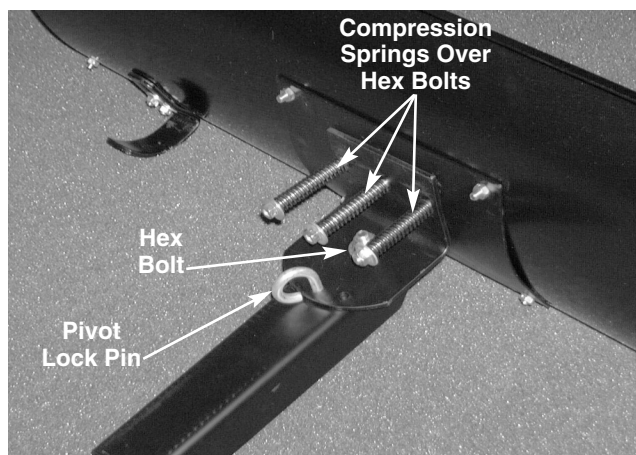

FIGURE 3.
6. Place compression springs over hex bolts and secure with flat washers and hex lock nuts. See figure 3.
7. Insert hex bolt through push bar channel and front support bracket. Secure with flat washer and hex lock nut. Tighten using a 3/4" flat wrench on top and a 3/4" socket and 6" extension on the bottom. See figure 3.
8. Insert the pivot lock pin through one of the holes in the front support bracket and push bar channel. Secure it with a hairpin clip. See figure 3.